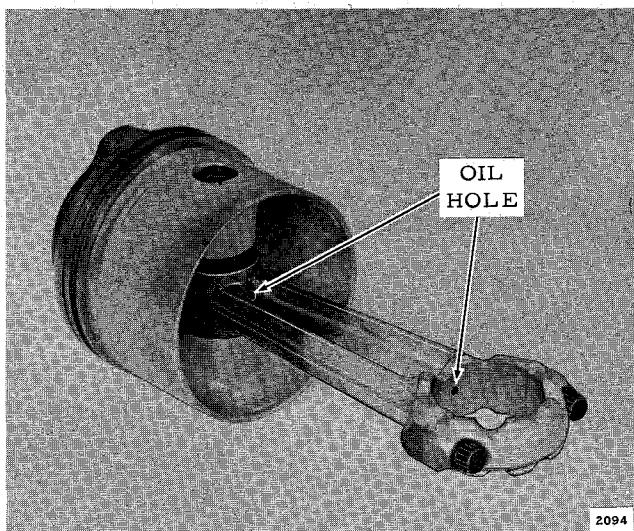

Figure 5-26. Connecting Rod Oil Hole
a. The difference between port and starboard cylinders must be considered when assembling pistons to rods. Pistons must be installed in cylinders with intake side of deflector toward intake port. Oil hole in wrist pin end of connecting rod must be toward top of motor. See Figures 5-26 and 5-28.